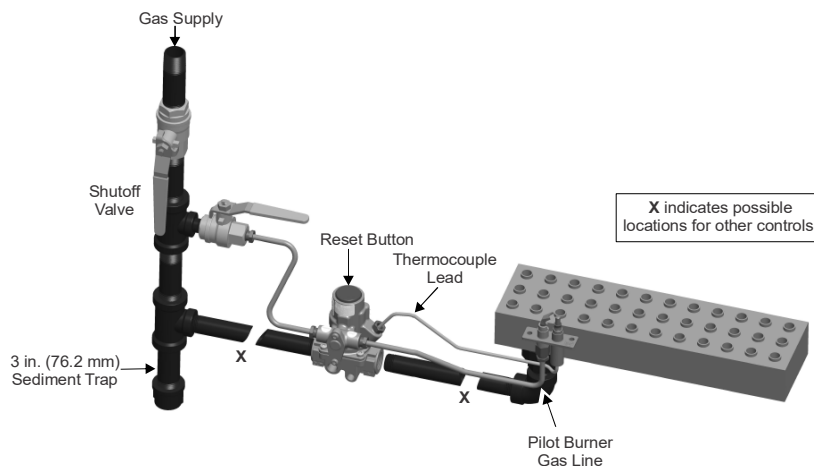

Figure 3: Typical Installation of an H15 Valve with External Pilot Gas Flow (Models H15_Q and H15_R)
- a. On external pilot gas valves models, plumb the pilot gas line from an external gas source to either pilot gas port on the gas valve. Plumb the other pilot gas port to the pilot burner fitting. See Figure 3.